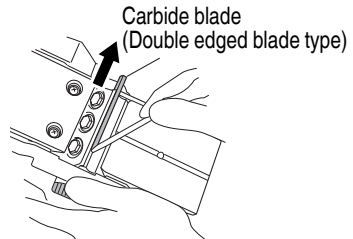

Fig. 15
- (2) As shown in Fig. 15, remove the carbide blade by sliding it with the attached box wrench.